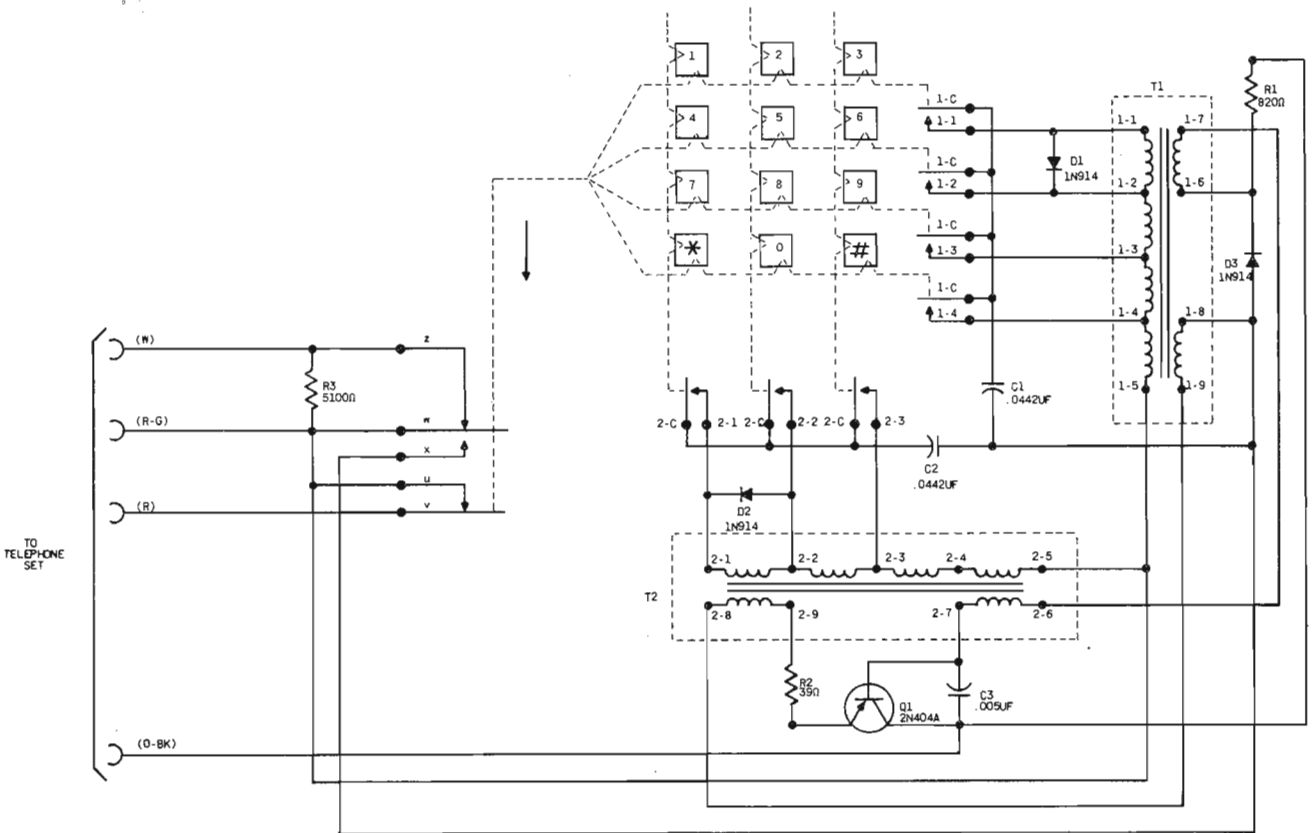
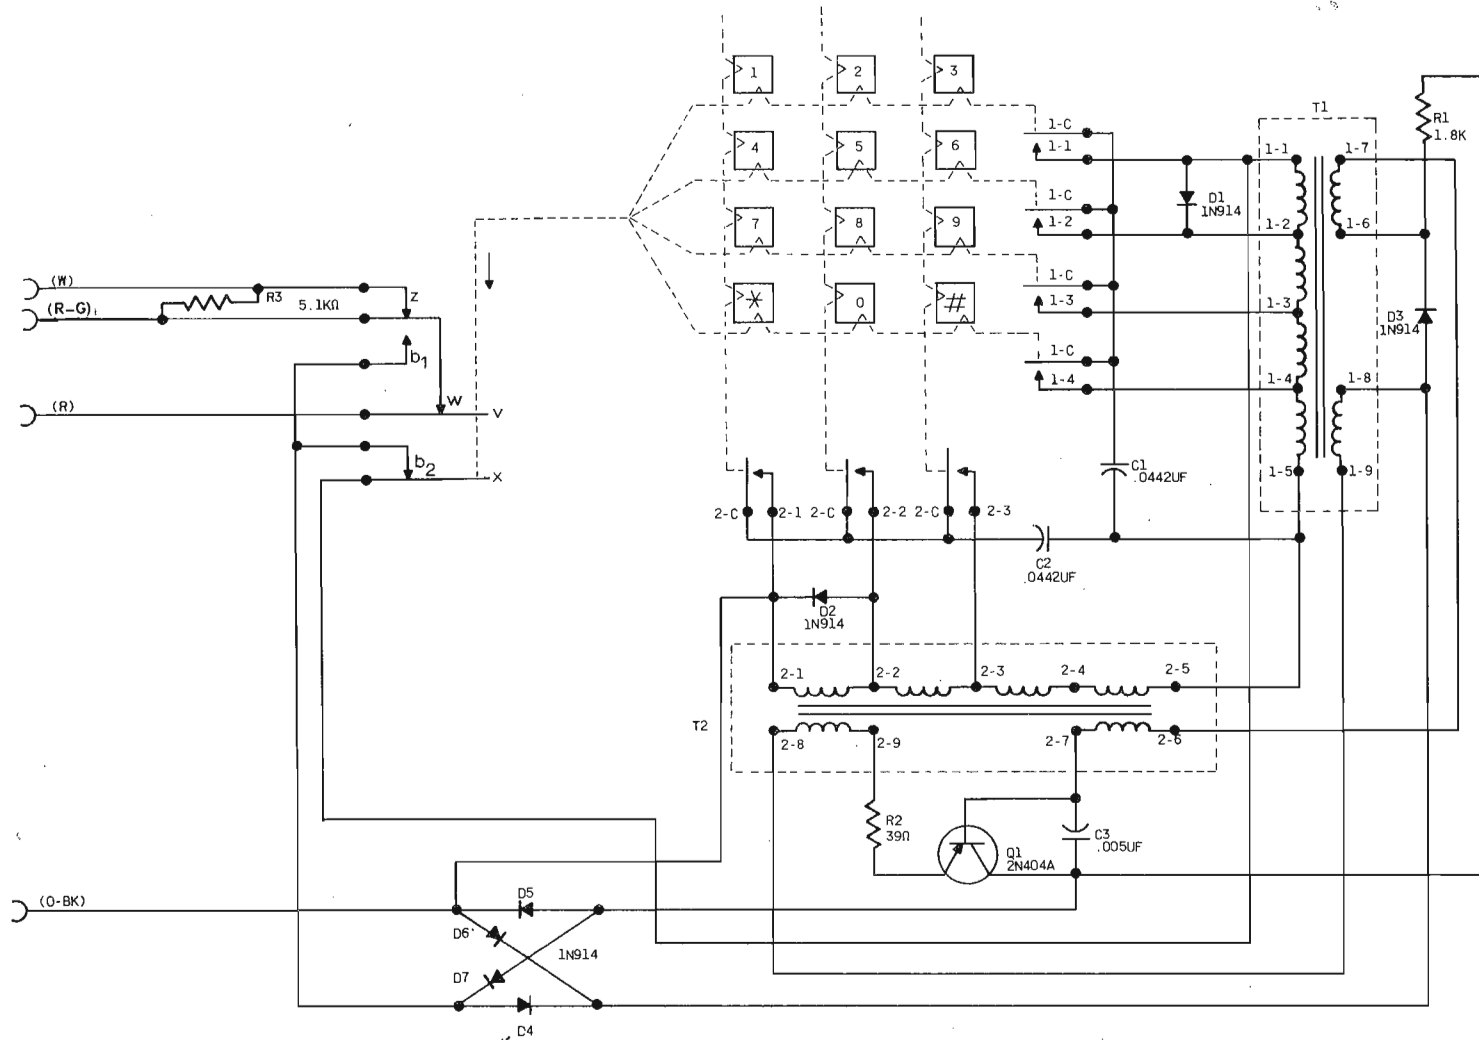

Fig. 4 – NE-35Q3A and NE-35Q3G Dials Schematic (MD)
Fig. 12 — NE-35Q3A1 Dial Schematic
4.01 Schematic diagrams for the NE-35Q type dials are listed on page 4. Fig. 4 to 11 inclusive show schematics of dial codes which are now rated Manufacture Discontinued (MD) while Fig. 12 to 19 inclusive show schematic diagrams for dials of current manufacture.
- Fig. 4 – NE-35Q3A and NE-35Q3G Dials Schematic (MD)
- Fig. 12 – NE-35Q3A1 Dial Schematic